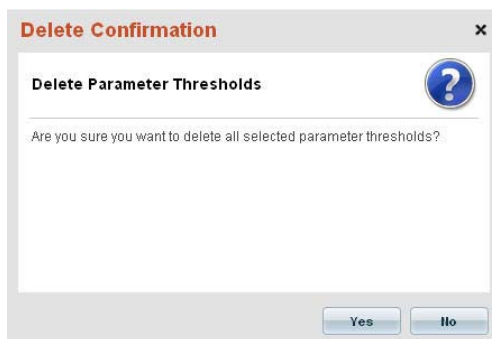

FIG. 262 Delete Confirmation dialog - Parameter Thresholds
2. The system will prompt you to verify this action via the *Delete Confirmation* dialog before the selected Parameter Thresholds are deleted (FIG. 262).